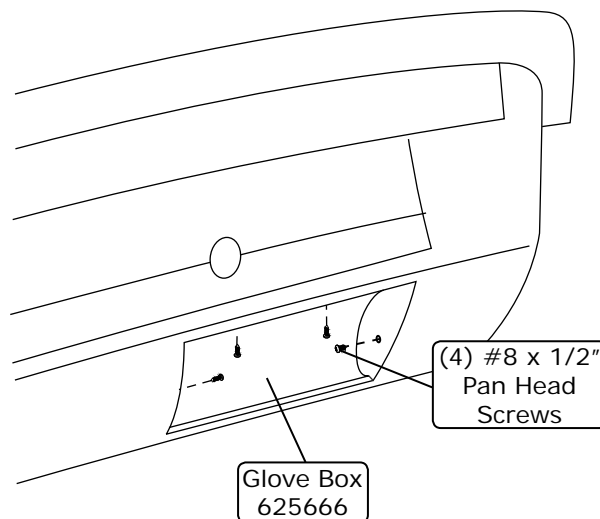

Figure 23
5. Install the supplied glove box using (4) #8 x 1/2" pan head screws (See Figure 23, below).